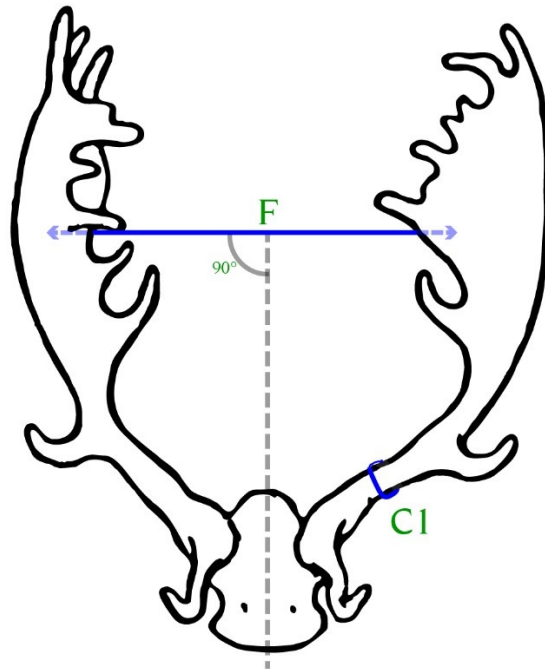

Figure 3
2. Circumference. Measure the circumference of each antler at the smallest point between the brow tine and the second tine. (Figure 3, C1) This can be anywhere between these two tines. In some cases, a fallow buck may have additional antler growths or protuberances (tines) in this area and several measurements will have to be taken to find the smallest circumference.